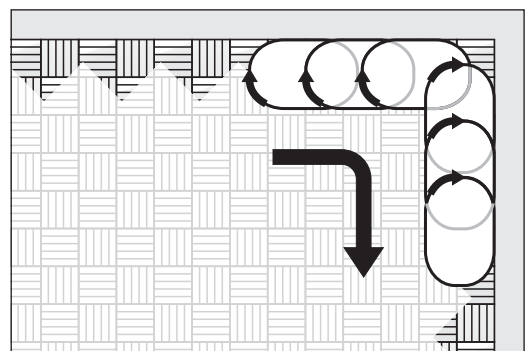

Fig. 14 ELAN with **short** or **long attachment**: Circular motions **clockwise**!
- Move the ELAN with **short** or **long attachment** in circular motions **clockwise** while sanding (fig. 14)!